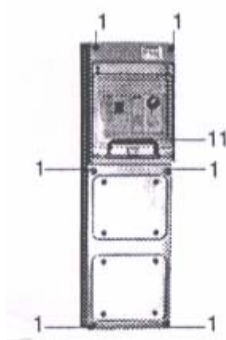

Fig. 1
**G)** tighten the cap fig. 1 by slipping the screws 1);